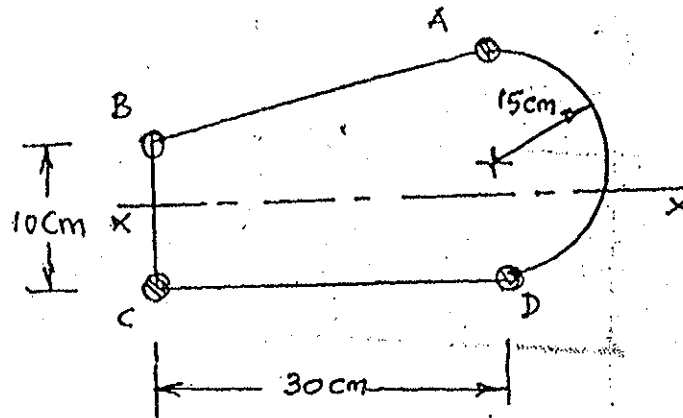

Fig. 5
- (b) A beam section shown in Fig. 5 has four stringers. The area of the stringers A, B, C and D are 6.25, 3.125, 4.5 and 6 sq.cm. respectively. Find the stresses in all the four stringers of the section due to $M_x = 50$ kNm and $M_y = -20$ kNm where x and y are the centroidal axes. Assume that webs and walls are ineffective in bending.